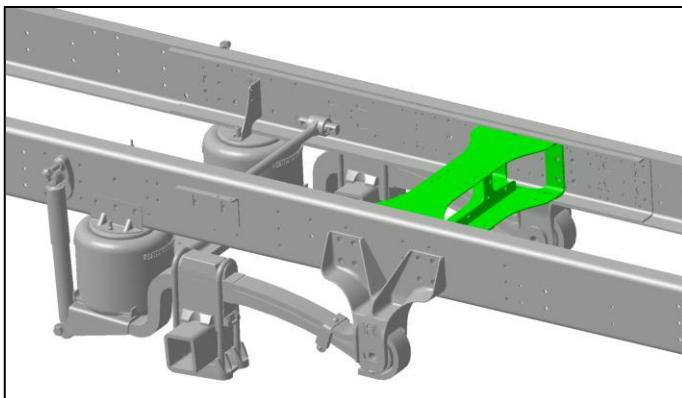

Fig. 1
3. From underneath the bus, in front of the rear axle, inspect each end of crossmember at all 8 frame rail mounting hole locations for possible cracks. (See figures 1 & 2)